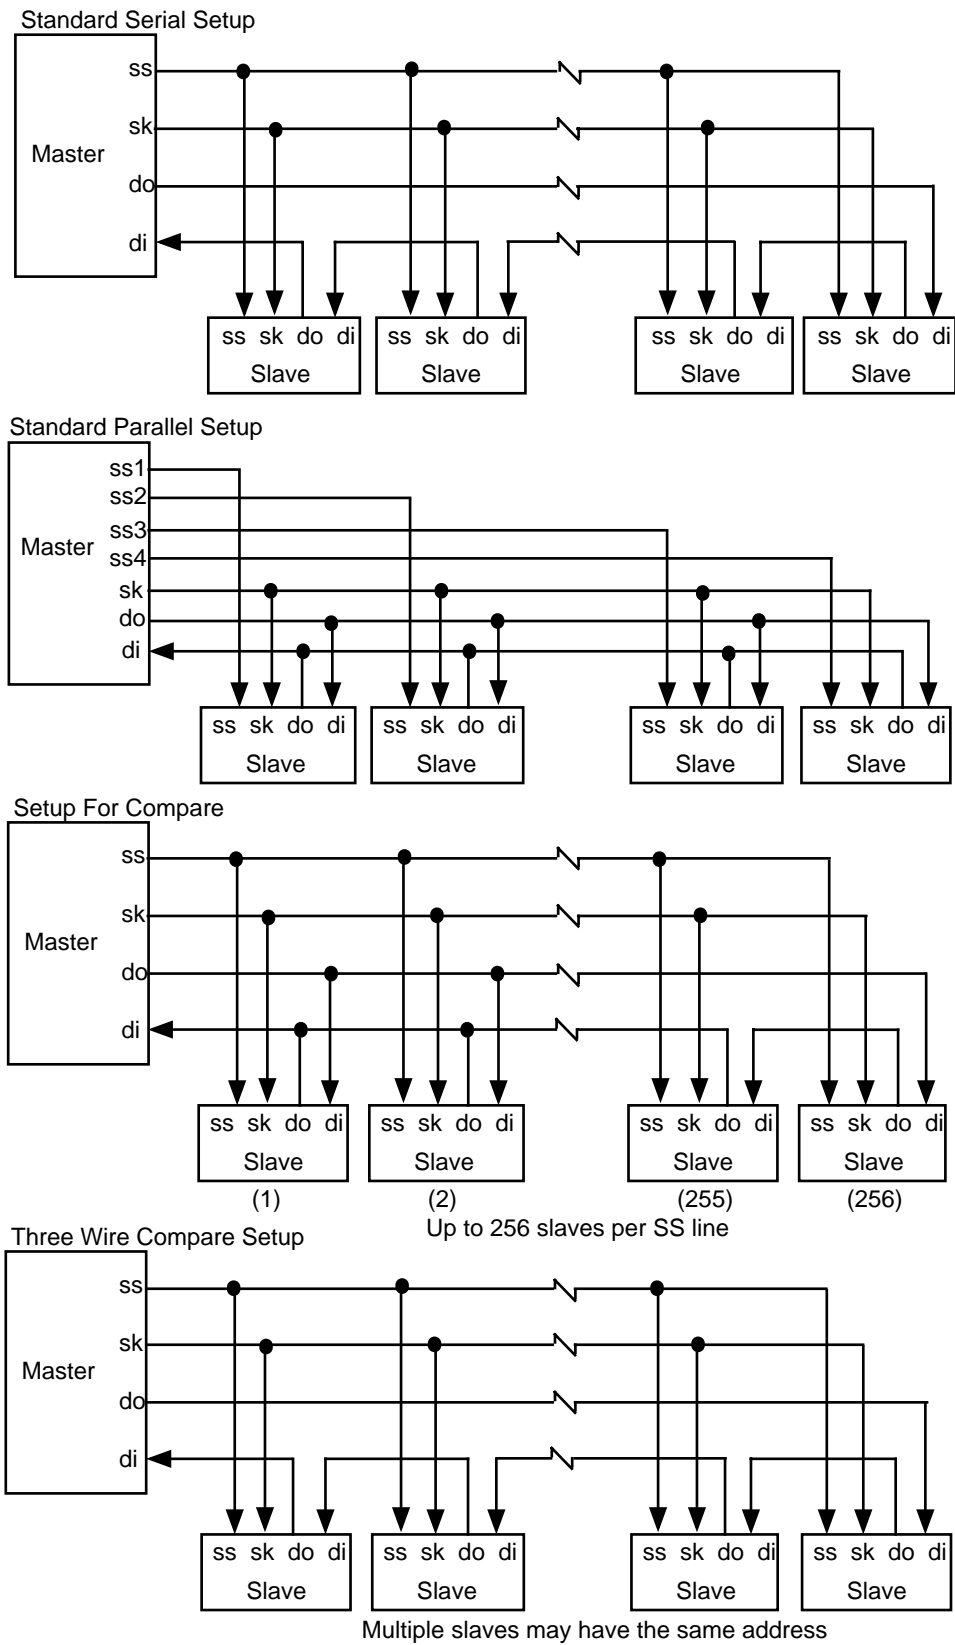

Figure 9-13. SPI System Configuration
The SPI is used in one of two modes: either as system slave, or as system master. Several of the possible system configurations are shown in Figure 9-13. In the slave mode, data transfer starts when the slave select (SS) pin goes active. Data is transferred into the slave's SPI Shift Register through the DI pin, which has the same address as the RxBUF Register. After a byte of data has been received by the SPI Shift Register, a Receive Character Available (RCA/IRQ3) flag and interrupt is generated. The next byte of data will be received at this time. The RxBUF Register must be cleared, or a Receive Character Overrun (RxCharOverrun) flag will be set in the SCON Register, and the data in the RxBUF Register will be overwritten. When the communication between the master and slave is complete, the SS goes inactive. When the SPI is activated as a slave, it operates in all system modes: STOP, HALT, and RUN.